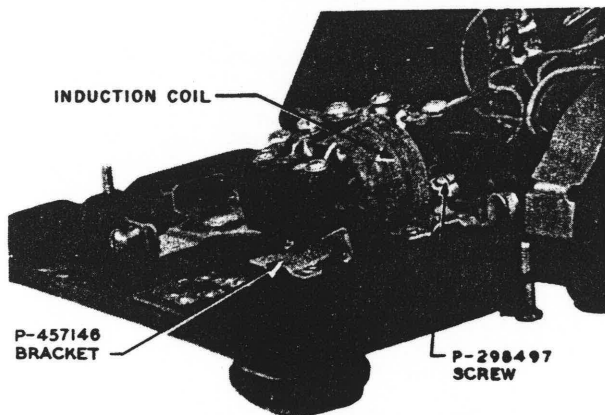

Fig. 20 — Induction Coil Assembly
3.14 Mount induction coil in the 300 series telephone set as shown in Fig. 20.